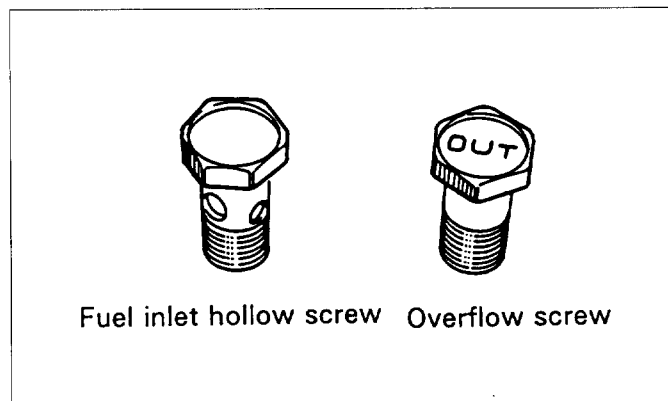

Fig.15-6 Screws
1. The banjo bolt marked "OUT" is to be used for the overflow during adjusting and must stay with the pump after adjustment is complete. (See Fig.15-6)
2. The fuel inlet banjo bolt will be hollow with appropriate size openings to allow fuel to enter the pump. (See Fig.15-6)